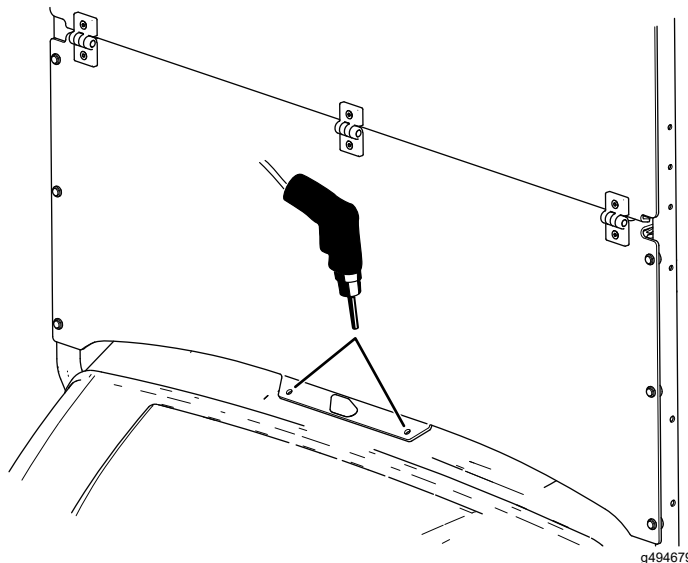

Figure 9
5. Using the windshield as the template, drill 2 holes (8 mm or 5/16 inch) into the dash (Figure 9).